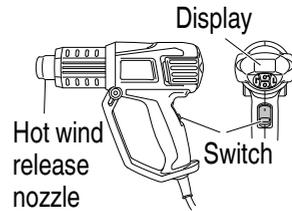
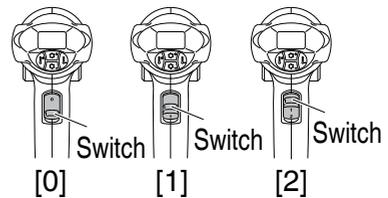
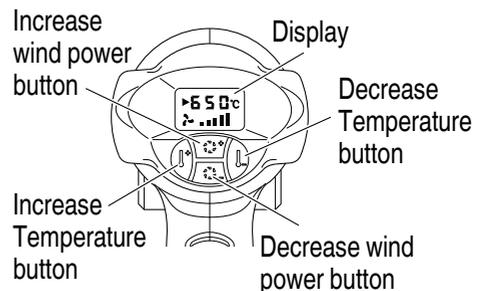

Fig. 1
Fig. 2
Fig. 3
1. Switch Operations and Temperature Adjustments (**Fig. 1, Fig. 2**)
2. Adjusting the Temperature (**Fig. 1, Fig. 2, Fig. 3**)
3. Wind Power Adjustment (Fig. 1, Fig. 3)